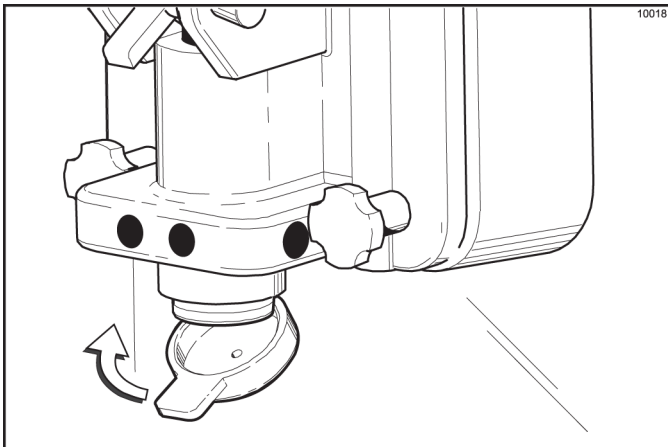

Figure 6-53
7. Install the restrictor cap on the freezer door spout. (See Figure 6-53.)